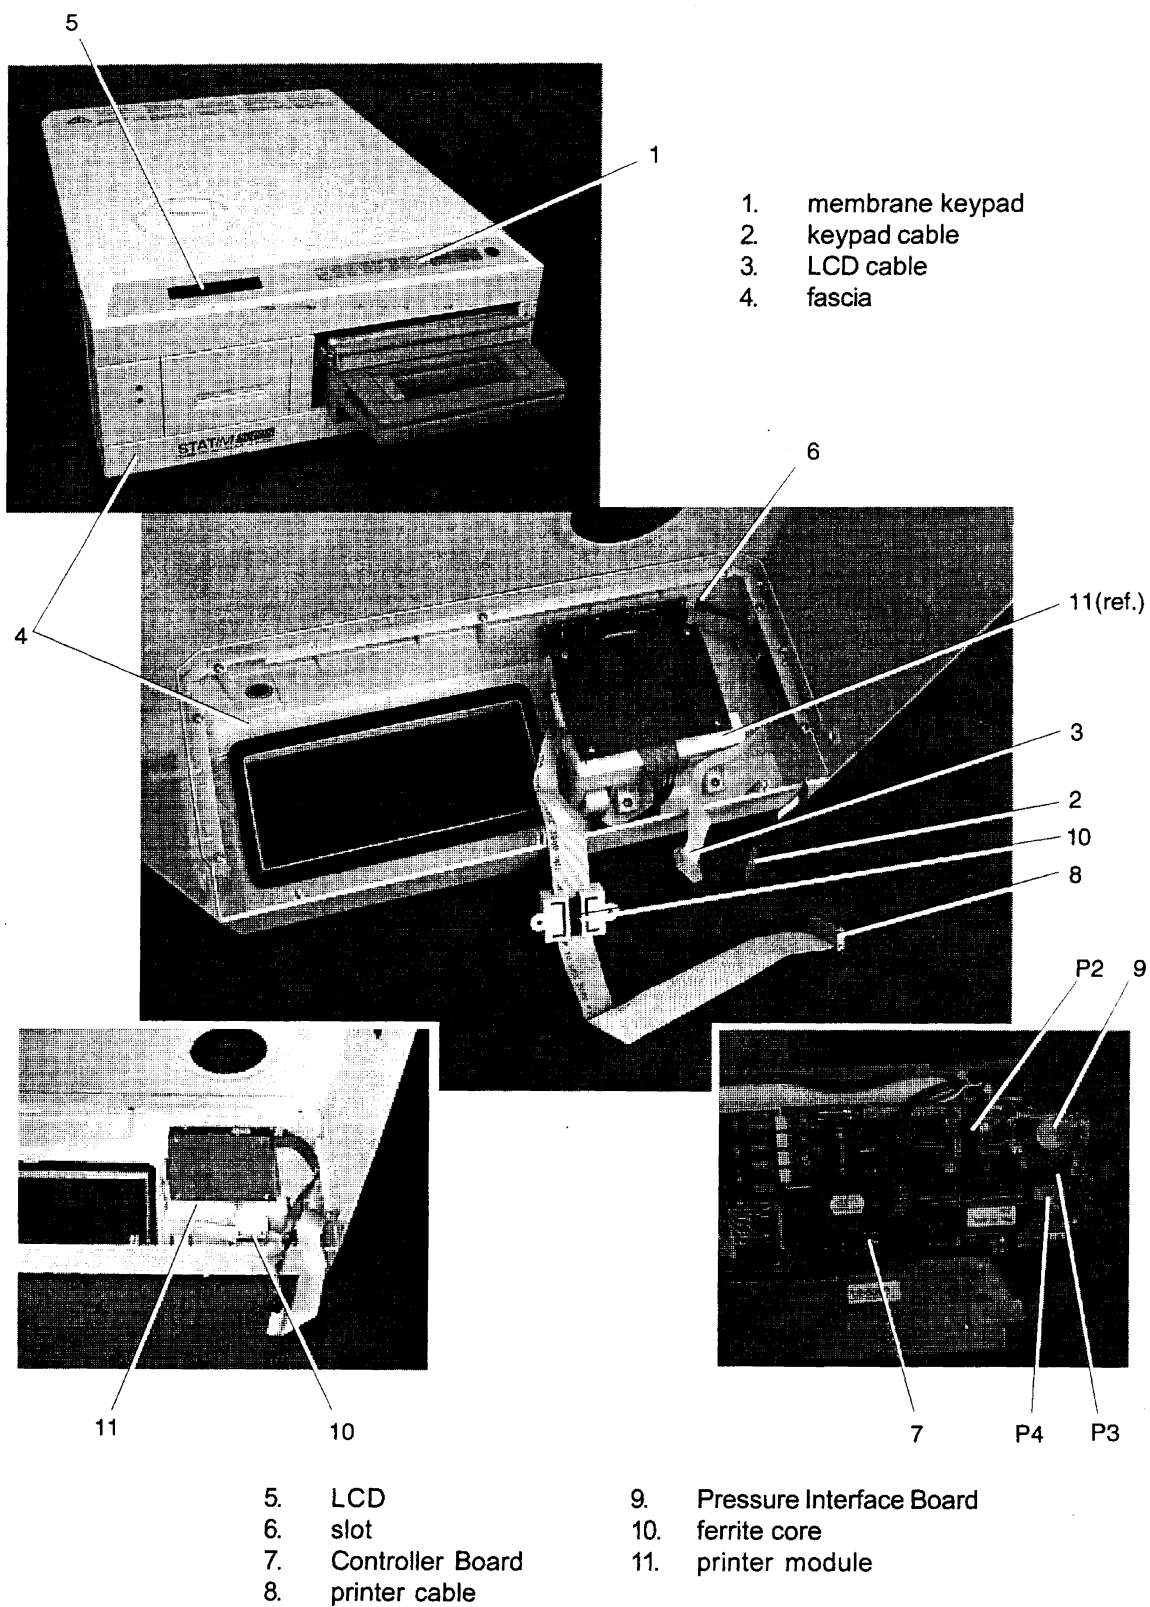

Figure 4
To remove the membrane keypad (1), follow these steps (see Figure 4):
1. The keypad flexible cable (2) and the LCD ribbon cable (3) are secured together with double sided adhesive tape. Carefully separate the cables.
2. Using a sturdy sharp instrument, carefully lift one corner of the membrane keypad and CAREFULLY peel the membrane keypad away from the fascia (4). EXERCISE CAUTION, there may be adhesive on the edges of the LCD (5). Pass the connector through the slot in the fascia.
To replace the membrane keypad (1), follow these steps (see Figure 4):
1. The replacement membrane keypad has carrier paper on the back to protect the adhesive. With the carrier paper in place, feed the keypad cable (2) connector through the slot (6) in the fascia (4).
4. Connect the keypad cable connector to Controller Board (7) P4.
6. Connect the printer cable (8) connector, if present, to Controller Board P2 or Pressure Interface Board (9) connector P2, if present. The printer cable in Figure 4 shows a ferrite core (10). This core may or may not be present. If present, the core must be attached to the wall of the printer module before replacing the cover.